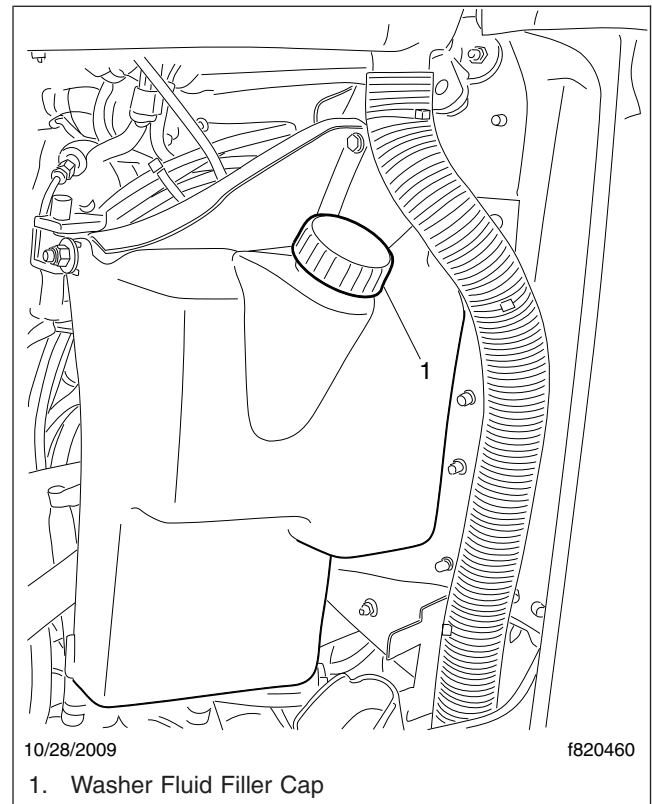

Fig. 20.7, Windshield Washer Reservoir
1. Check the windshield washer reservoir fluid level. The reservoir is usually located near the right-hand frame rail. See Fig. 20.7.
- 3.3 Inspect the drain hoses installed on the rain tray. Both hoses should be securely attached to the rain tray and direct water down the aft side of the front fenders. See **Fig. 20.7**.